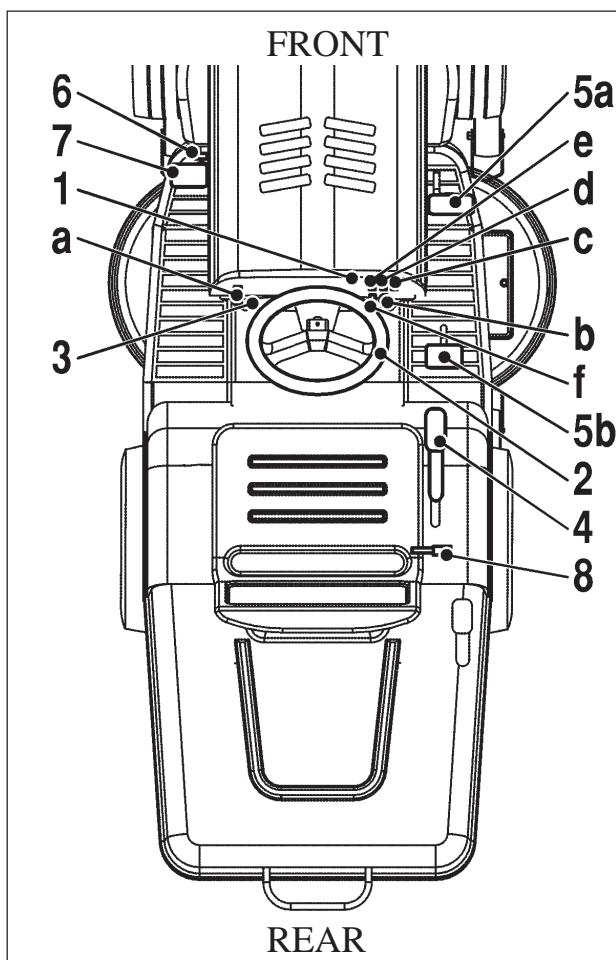

Fig. 11
1. Dash panel (fig. 11)
OPERATION AND DESCRIPTION (FIG. 11)
In T-position the cutting system will STOP automatically and it will stay in the STOP status even when the cutting height lever is lowered down again. For the continuing- of the cutting you must push the re-engage button (See Fig. 11, item 1. e).